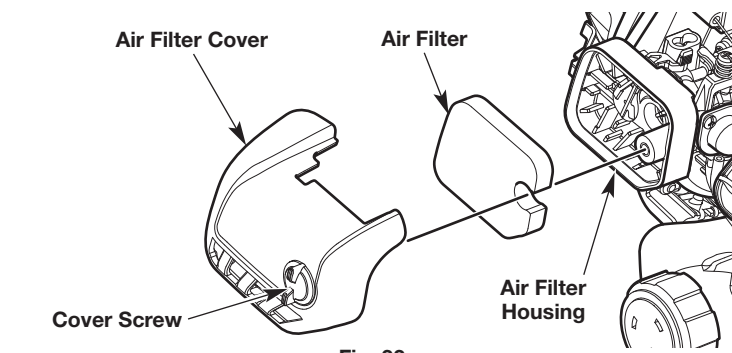

Fig. 33
1. Open the air filter cover by unscrewing the cover screw (Fig. 33).
2. Remove the air filter from the air filter housing (Fig. 33).
6. Reinstall the air filter in the air filter housing (Fig. 33).